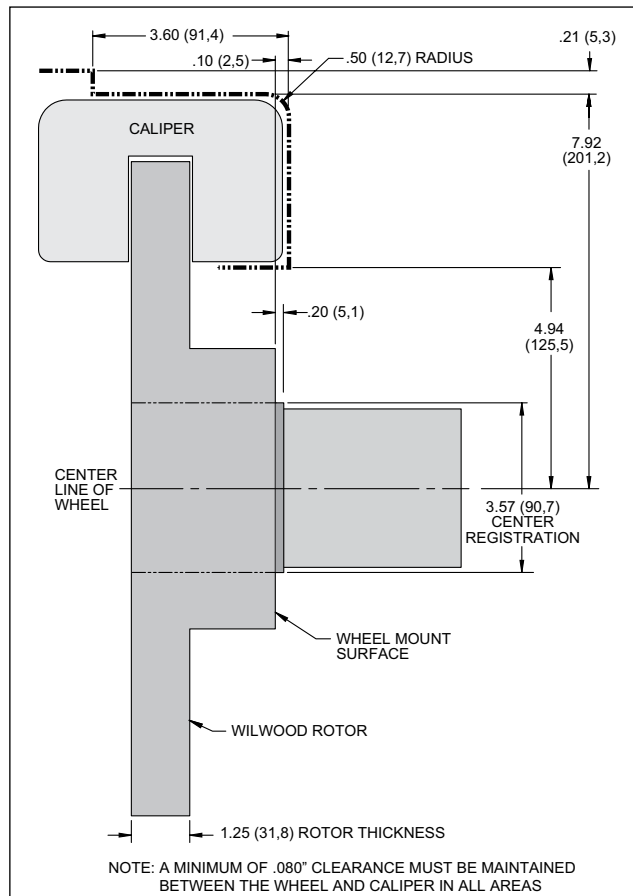

Figure 2. Wheel Clearance Diagram
- Review the Wheel Clearance Diagram (Figure 2, page 3) to verify that there is adequate clearance with the wheels you will be using with the installation.
- Verify your wheel clearance using Figure 2.
- **CAUTION:** Wheel fitment to OEM hub interference must be checked. There is a 3.57" diameter step on the hub face that was used to register the old brake drum (Figure 2). Be sure your wheel fits flush against the hub face. If the step interferes, you will need to use a wheel spacer (customer supplied) to clear the step.
•Temporarily install the wheel and torque the lug nuts to the manufacturer's specification. Ensure that the wheel rotates freely without any interference. **CAUTION:** Wheel fitment to OEM hub interference must be checked. There is a 3.57" diameter step on the hub face that was used to register the old brake drum (Figure 2). Be sure your wheel fits flush against the hub face. If the step interferes, you will need to use a wheel spacer (customer supplied) to clear the step.
•**NOTE:** OEM rubber brake hoses generally cannot be adapted to Wilwood calipers. The caliper inlet fitting is a 1/8-27 NPT (use PTFE tape on pipe threads for proper sealing to caliper). Install Wilwood's stainless steel braided flexline hose kit (22), P/N 220-13319 included with this kit. **Carefully route hoses to prevent contact with moving suspension, brake or wheel components.** **NOTE:** Wilwood hose kits are designed for use in many different vehicle applications and it is the installer's responsibility to properly route and ensure adequate clearance and retention for brake hose components.